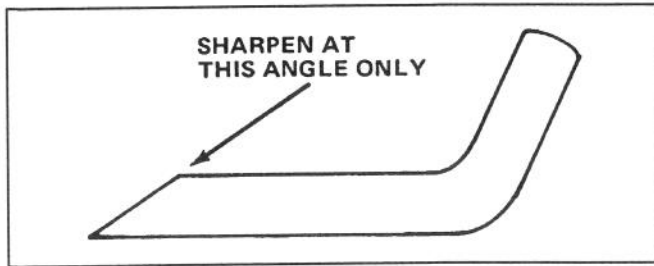

Figure 25
6. **SHARPENING BLADE**—Using a file, sharpen top side of blade (side facing top of mower housing) and maintain original cutting angle (Fig. 25). The blade remains balanced if the same amount of material is removed from both cutting edges.